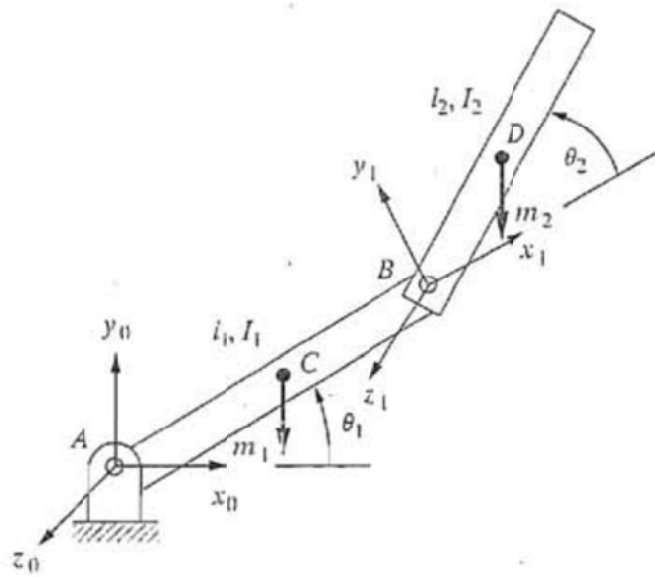

Figure 2: Two-link revolute joint arm.
- a.) With respect to figure 2 above, derive the equations of motion for the two-degree-of-freedom robot arm using the Lagrangian method.